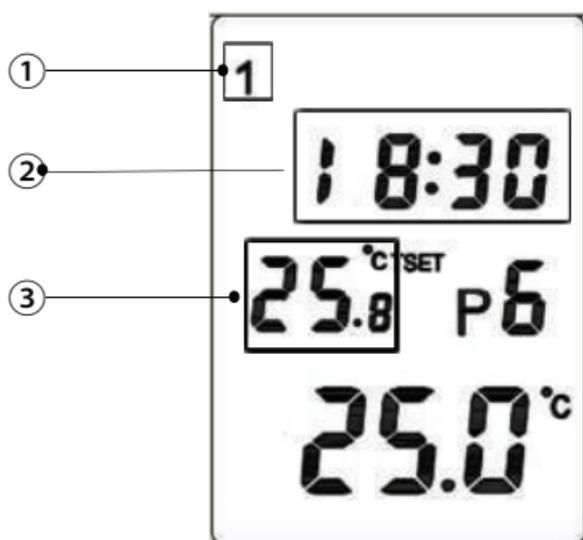

Fig. 7
2. Release SET button then press + or – until 1 (Monday) is flashing ① (Fig. 7, page 12).
3. Press PROG once and the time will flash ②. Use + or – to adjust the first time to required setting.
4. Press PROG once and the temperature will flash ③. Use + or – to adjust the temperature.